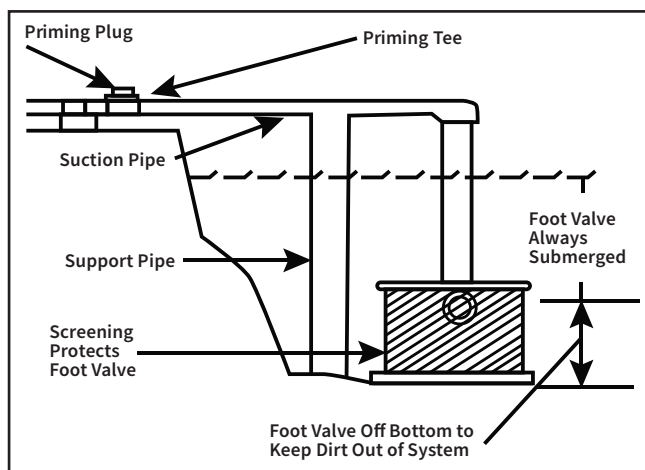

FIGURE 2
- A foot valve must be installed at the end of the suction line (see Fig. 2) and must be located at least 5 ft from the bottom of the well. The foot valve must be submerged at all times and positioned at least 10–20 ft below the lowest water level when pump is operating.
- When water source is other than a drilled/dug well (such as pond, lake, etc.) a mesh screening must be used to protect the foot valve from clogging (see Fig. 2).